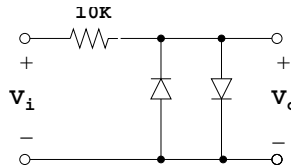

Figure 2.
6. Construct the double diode limiter (shown in Figure 2) using IN4001 diodes. Describe the output for a 1 V amplitude sine input. Use the X-Y mode to plot the transfer function. Observe both input and output on the same scale and note why the circuit is called a clipper.